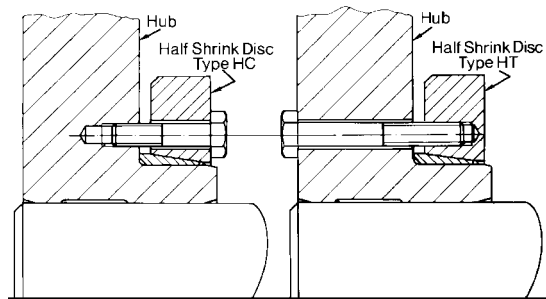

Fig. 57: Half Shrink Discs™
4. Insert the locking screws through the collar clearance holes and screw them into the corresponding tapped holes (see Fig. 57: Half Shrink Discs®).
4. Insert the locking screws through the web clearance holes and screw them into the corresponding collar holes (see Fig. 57: Half Shrink Discs®).